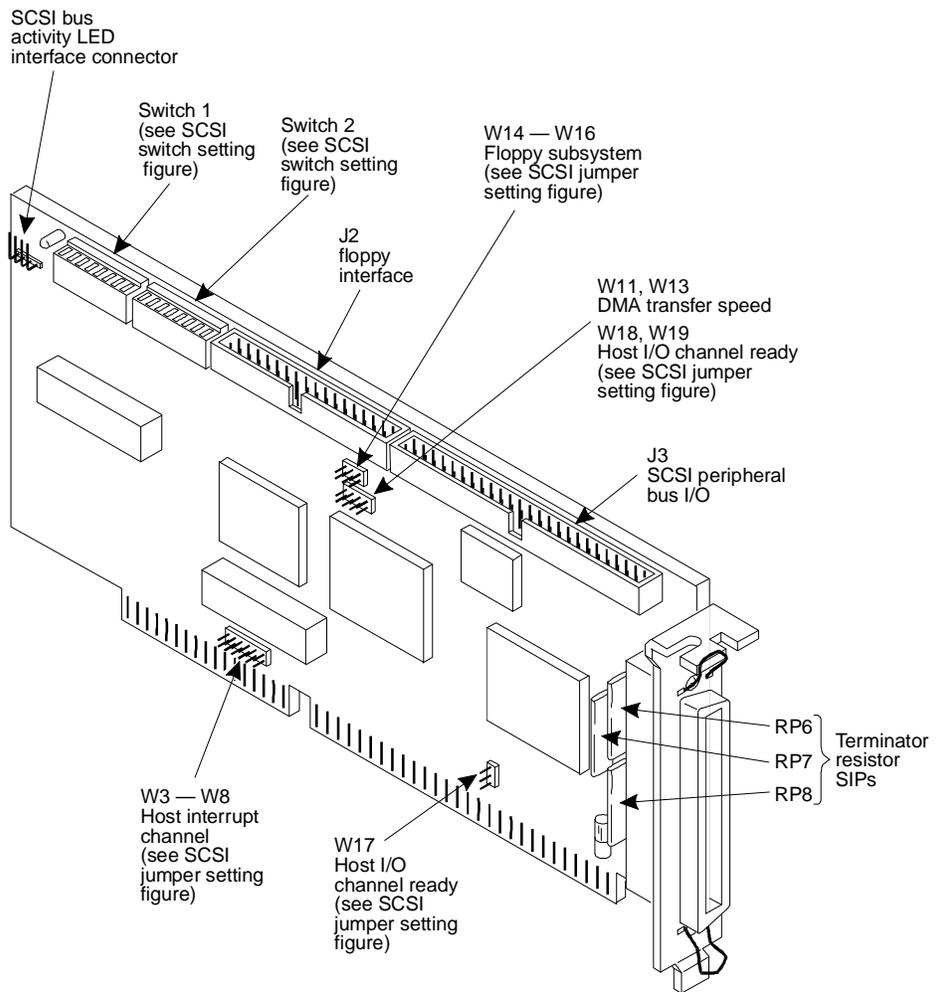
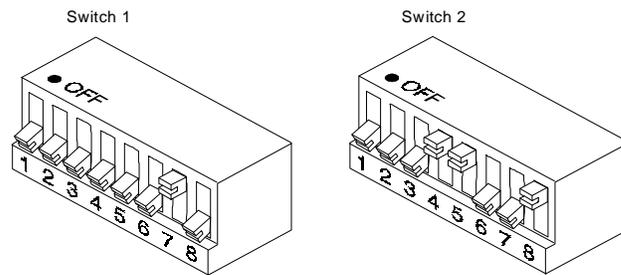
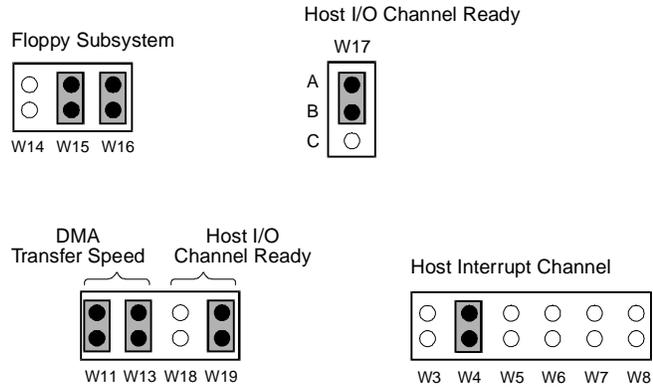

Figure 9-7. SCSI Host Adapter Controller Circuit Card
Figure 9-8. Switch Settings for the SCSI Host Adapter Controller Circuit Card
Figure 9-9. Jumper Settings for the SCSI Host Adapter Controller Circuit Card
The SCSI Host Adapter Controller circuit card (Figure 9-7) controls the hard drives, the floppy disk drive and the cartridge tape drive, as well as the SCSI Bus LED front chassis panel indicators for these drives.
Figure 9-7 shows the location of the switches on the the SCSI Host Adapter Controller circuit card. Figure 9-8 shows the switch settings. Table 9-1 and Table 9-2 provide a summary of the switch settings (the recommended settings are shown in bold type).
Figure 9-7 shows the locations of the jumpers on the SCSI controller circuit card. Figure 9-9 shows the correct settings for these jumpers. Table 9-3 provides a summary of the jumper settings (the recommended settings are shown in bold type).
1. Orient the card as shown Figure 9-7.
2. Ensure that the three terminating resistor SIPS are installed on the card (these are labeled as RP6, RP7, and RP8 in Figure 9-7).
4. Locate the jumpers on the card (these are labeled in Figure 9-7). Verify that they are set as shown in Figure 9-9.